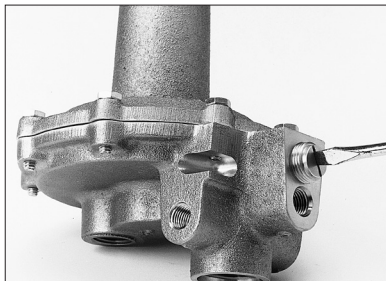

Figure 21
5. Unscrew and remove the threaded Retainer Plug on the side of the Series 20L pilot just above the outlet port (refer to Figure 21).